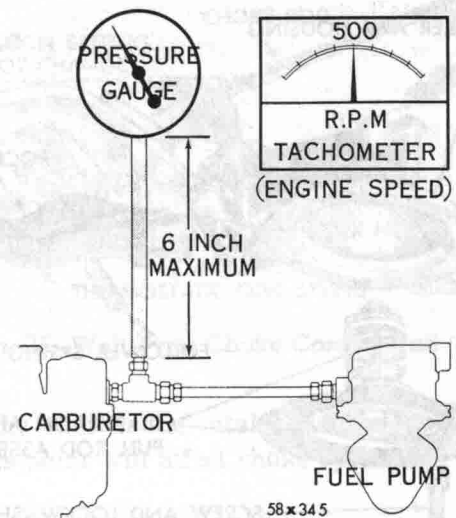

Fig. 78—Pressure Testing the Fuel Pump
- (1) Insert a "T" fitting in the fuel line at the carburetor, as shown in Figure 78.
- (2) Connect a 6 inch piece of hose between the "T" fitting and gauge C-3411. (The hose should not exceed 6 inches. A longer hose may collect fuel and the additional weight of the fuel would be added to